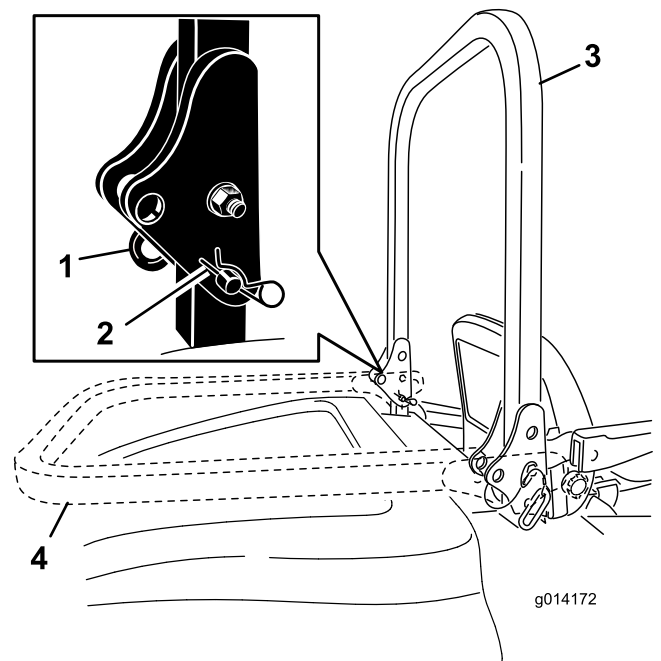

Figure 20
2. Remove the 2 hairpins and remove the 2 pins (Figure 20).
3. Raise the roll bar to the upright position (Figure 20).
4. Secure the roll bar with the 2 pins and 2 hairpins (Figure 20).
1. Remove the hairpins, push the roll bar forward against the springs, and remove the 2 pins (Figure 20).
2. Lower the roll bar to the down position (Figure 20).
3. Install the 2 pins into the pivot plates and secure the pins with the 2 hairpins (Figure 20).